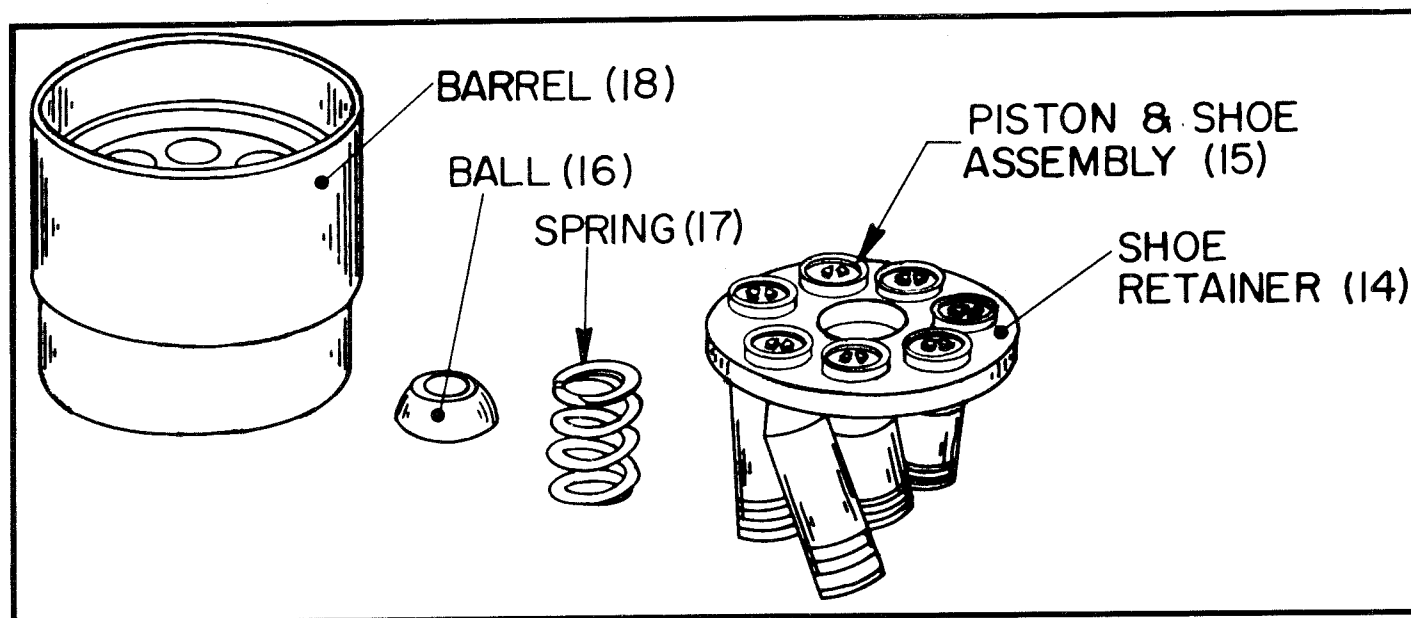

Figure 7. Rotating Group Inspection. (511783)
See Figure 7. Inspect the bores and the valve plate mating surface of the cylinder barrel (18) for wear and scoring. Remove minor defects on the running face by lightly stoning or lapping the surface. If the defects cannot be removed by these methods, replace cylinder barrel as part of Rotating Group Kit No. 73.